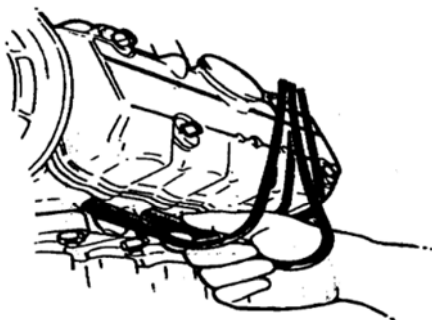

Fig. 1.4-9
- (1) Dismount secondary wire from spark plug. Note that the spark plug cap (protective sleeve) on secondary wire should be held, pull out secondary wire, as shown in Fig. 1.4-9.